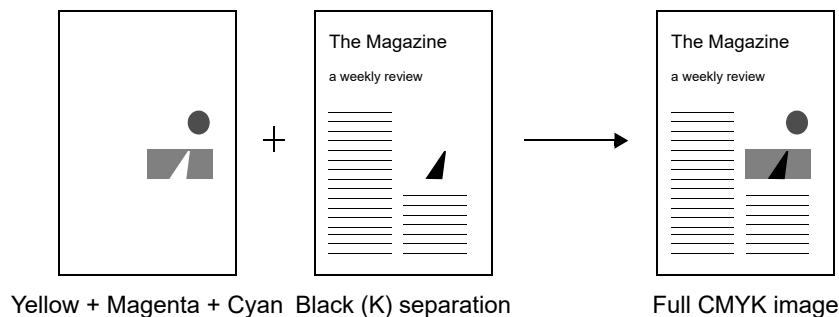

Figure 13.15 Yellow, Magenta, Cyan, and Black separations
Finally, the black ink for the black (K) separation is printed. All of the separations have been combined, producing a full-color image as simulated in Figure 13.15.